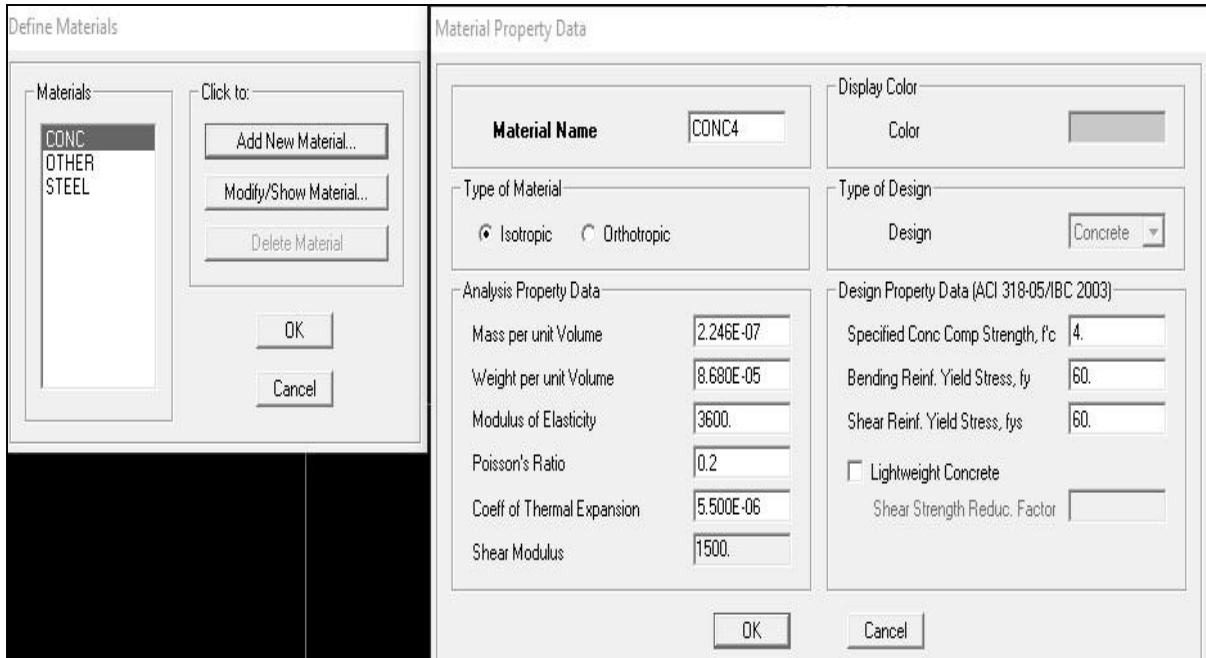

Fig: 3.5
2.1. **Materials Properties:** Define → Materials Properties → Add New Materials → Material Name = CONC4 → Specified Conc. Comp. Strength = 4 → Modulus of Elasticity = 3600 → OK → OK. (Fig: 3.5)